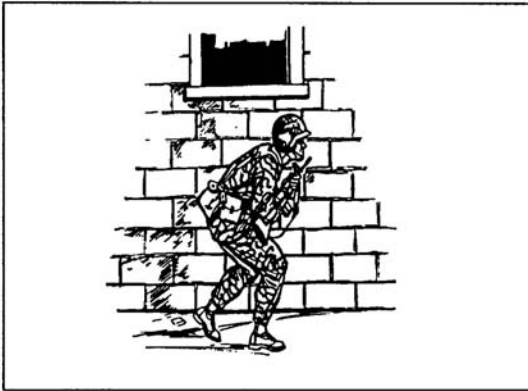

Figure 071-326-0541-4. Movement past window
(1) The right way to pass first floor windows is to stay as close to the building as possible then, when you reach the window, duck your head well below it.
(2) Always take care to avoid silhouetting yourself in a window (figure 071-326-0541-4).